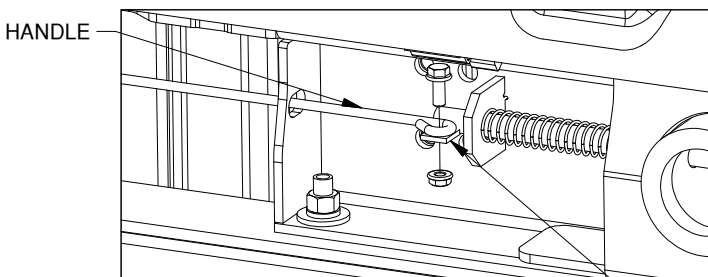

Figure J1: Looking up at center section
2. **Secure the handle.** Attach the handle to the latch pin as shown in Figure J1. The head of the bolt must be on the handle side, and the lock nut must be on the tab side. The tab is welded to the pin in an offset position so that the handle will be lined up over the center of the pin. If the handle is fastened to the other side of the tab, the handle will not function properly. When installed correctly the latch pin may be disengaged from the ball by pulling on the handle from the driver side wheel well and rotating the handle clockwise.